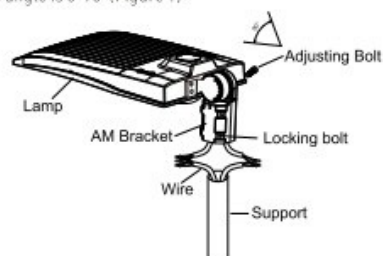

Figure 1
1.ADJUSTABLE FITTER MoUNTING (AM)
Step 1:Loosen the four bolts on AM bracket, connect the wires correctly, and pull the wires into the poles.(Figure1)
Notice: Adjustable angle is 0-90°(Figure 1)